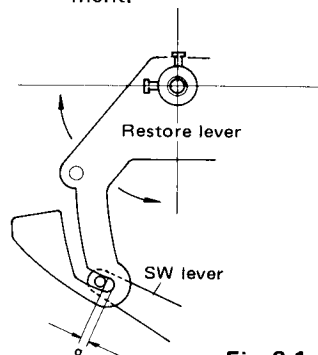

Fig. 2-1.
- If the stylus tip descends inside the specified zone, turn the restore lever slightly counterclockwise and secure it. (Distance "a" in Fig. 2-1 should be 1-1.5 mm wider than before adjustment.)